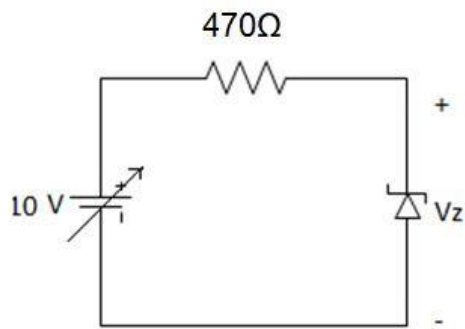

Figure 3.3: Reverse Biased Zener Characteristics
1. Connect the circuit as shown in the figure 3.3